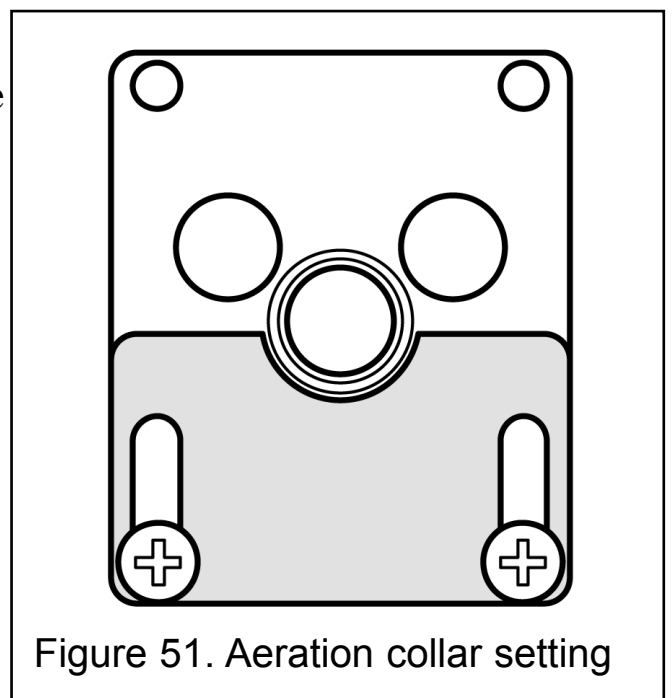

Figure 51. Aeration collar setting
1. The aeration collar is factory set and will require adjustment. It is important to ensure that the aeration setting is correct (See figure 51).
2. To adjust the aeration setting, loosen the two aeration shutter screws, slide the aeration shutter to the position shown in figure 51 and tighten the fixing screws.